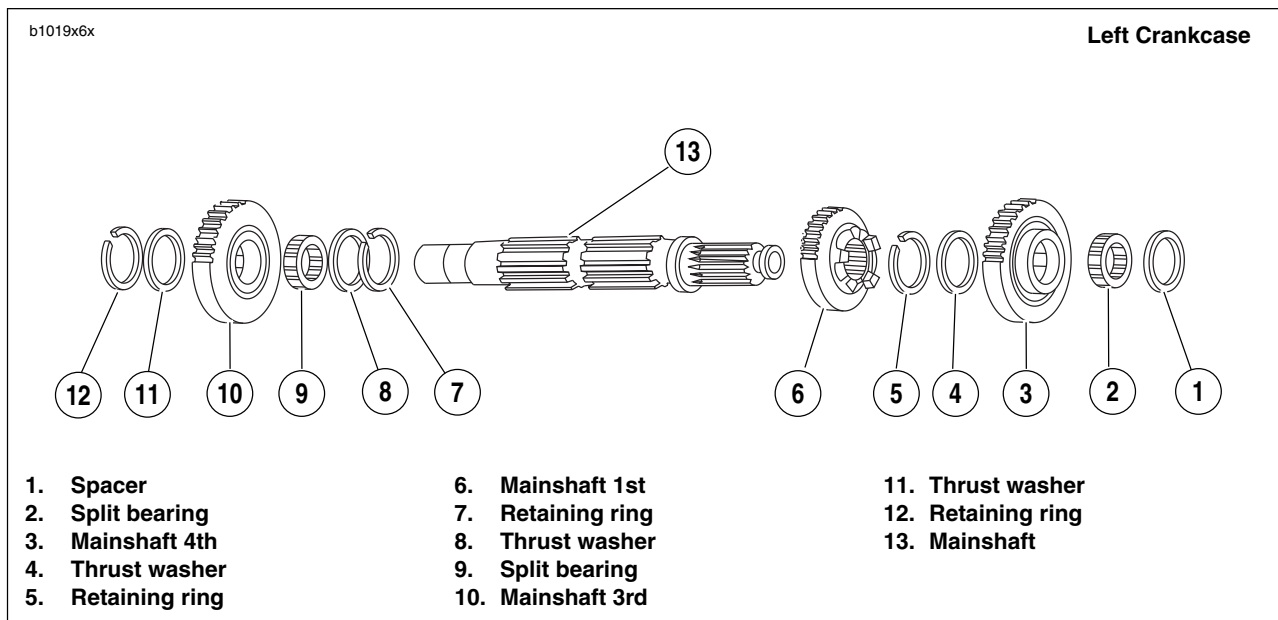

Figure 6-62. Transmission Mainshaft Assembly Once Removed from Left Crankcase/Disassembly
- See Figure 6-62. Remove spacer (1), mainshaft 4th gear (3), split bearing (2) and thrust washer (4) from the threaded end of the mainshaft.
- On the mainshaft, between mainshaft 1st gear (6) and mainshaft 3rd gear (10), use RETAINING RING PLIERS (Part No. J-5586) to expand retaining ring (7) and move next to mainshaft 1st gear along with thrust washer (8).
- Move mainshaft 3rd gear (10) as far as possible toward mainshaft 1st gear (6).
- Expand retaining ring (12) at opposite side of mainshaft 3rd gear (10) and slide off end of mainshaft with thrust washer (11).
- Remove mainshaft 3rd gear (10) and its split bearing (9).
- Slide thrust washer (8) off end of mainshaft.
- Expand retaining ring (7), which is next to mainshaft 1st gear (6), and slide off end of shaft.
- Remove mainshaft 1st gear (6).
- Expand retaining ring (5) and remove.